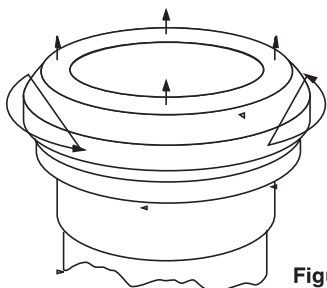
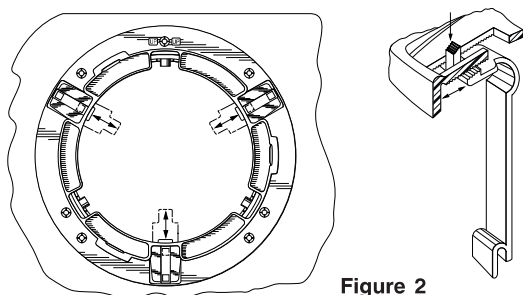

Figure 1
Figure 2
- 1 Remove cover ring (Figure 1) and verify that all three adjustment clips (Figure 2) are in place. If all three adjustment clips are in place please follow the "Adjustment Procedure" shown to the left. If any adjustment clips are missing continue to step 2.